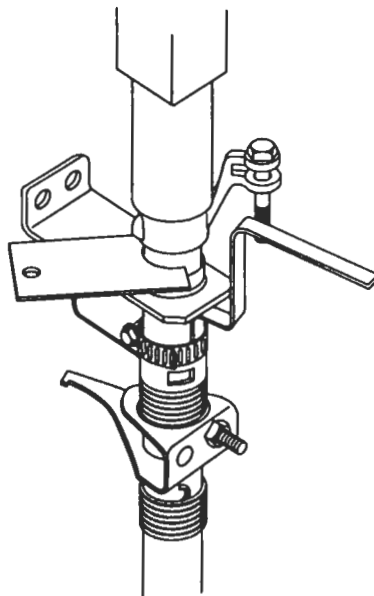

Figure 6. Installing New Lever
6. Reinsert the 1/4 x 1-3/4 inch L. bolt through the end of a new lever and press the lever onto the control tube with the bolt resting against the indexing bracket (Figure 6.) Place a .011 inch feeler gage under the lever to get proper clearance between the lever and the spacer on the control tube. Before pressing on the lever, make sure the opposite end of the control tube is supported.